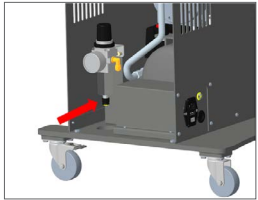

Figure 13
1. Open the drainage mechanism at the bottom of the air purge valve to empty the water inside. (Figure 13)